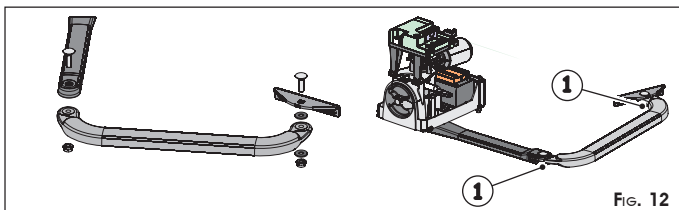

FIG. 12
- ⑦ Assemble the rest of the arm as illustrated in Fig.12.
For correct operation, tighten the two securing screws (Fig.12 ref.①) and then loosen them by about 1/2 turn to enable rotation without any friction on the arms.